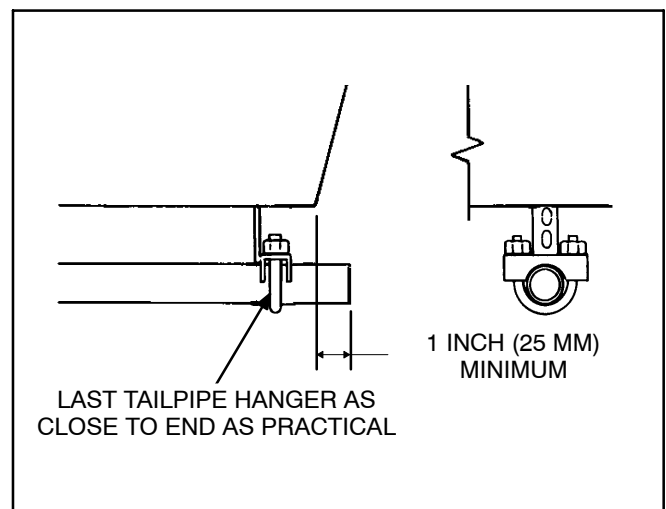

FIGURE 3-4. TERMINATING EXHAUST TAILPIPE
4. Do not terminate the tailpipe underneath the vehicle. Extend it a minimum of 1 inch (25 mm) beyond the perimeter of the vehicle (Figure 3-4). Support the end of the tailpipe such that it cannot be pushed inward and up under the skirt of the vehicle.